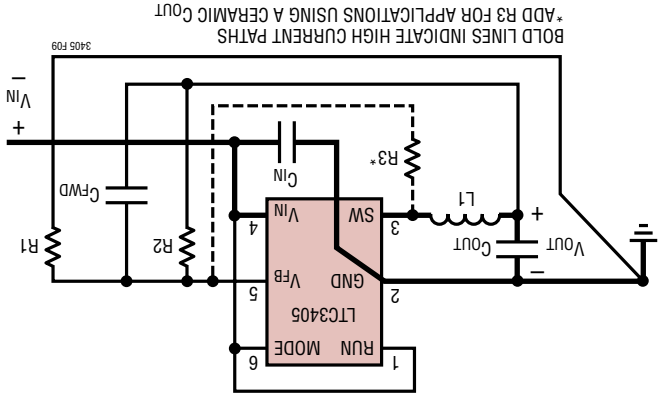

Figure 9. LTC3405 Layout Diagram
- When laying out the printed circuit board, the following checklist should be used to ensure proper operation of the LTC3405. These items are also illustrated graphically in Figures 9 and 10. Check the following in your layout: